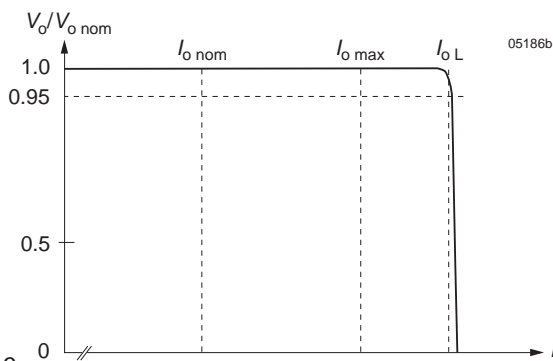

Fig. 3
**Caution:** The installer must ensure that under all operating conditions  $T_C$  remains within the limits shown in the diagrams fig. 3, which is valid for a converter mounted in free and quasi-stationary air, allowing unrestricted convection cooling.